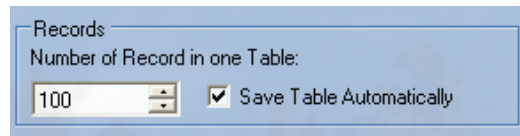

Figure C-4 Records option
- ✓ Records section allows users to set the number of rows in the table (figure C-4).
- ✓ Check option for **Save Table Automatically** to enable or disable auto saving of data in the table (Figure C-4).